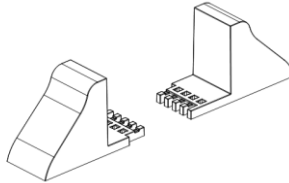

Figure 5-1 Support base
- 1) Take out the support base, as shown in Figure 5-1.